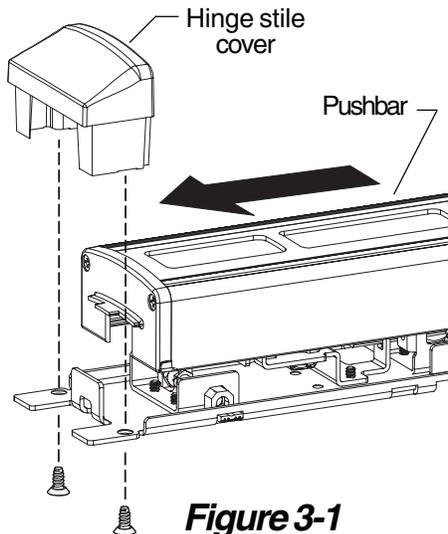

Figure 3-1
- 3** Remove hinge stile cover and slide pushbar off device (Figure 3-1).